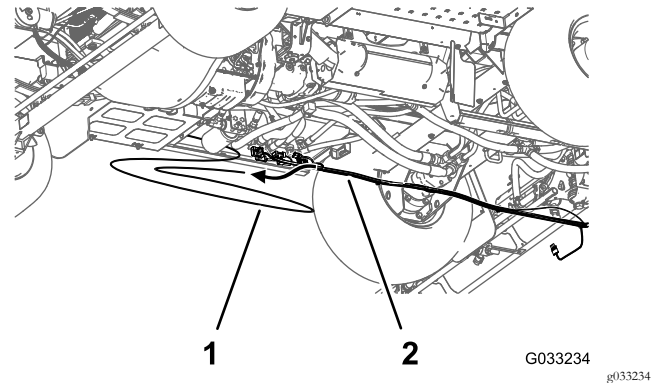

Figure 42
7. Remove the pressure-sense tube for the dash gauge from the rear wire harness from the machine (Figure 42).